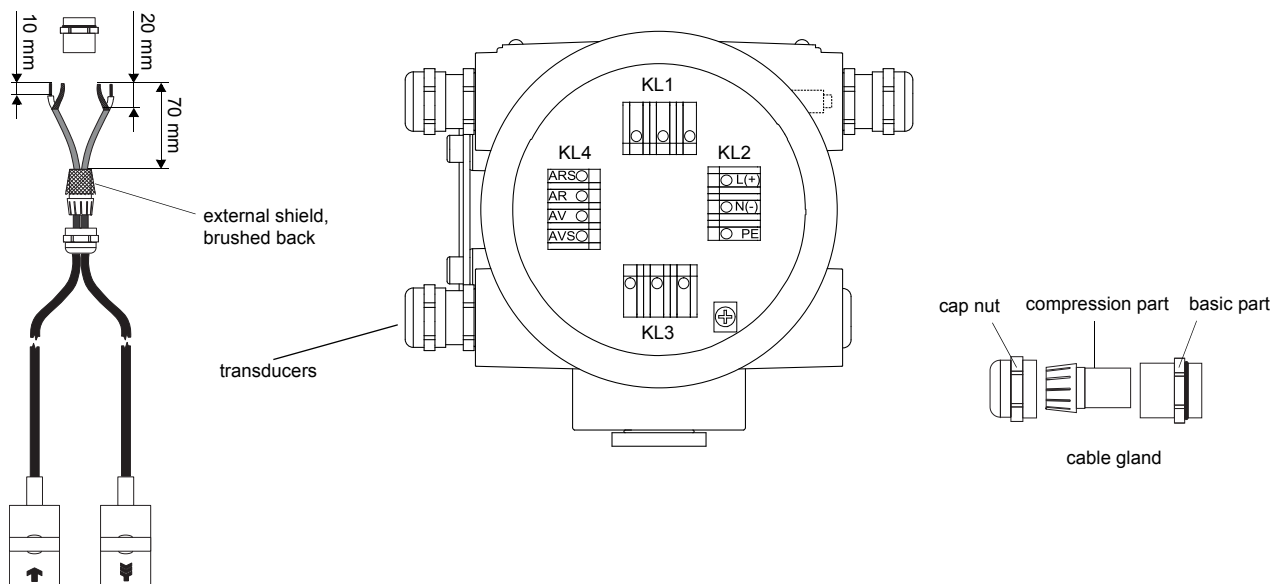

Fig. 6.6: Connection of the transducer cable
- Remove the left blind plug for the connection of the transducer cable (see Fig. 6.6).
- Connect the transducer cable to the terminals of the transmitter (Fig. 6.6 and Tab. 6.2).